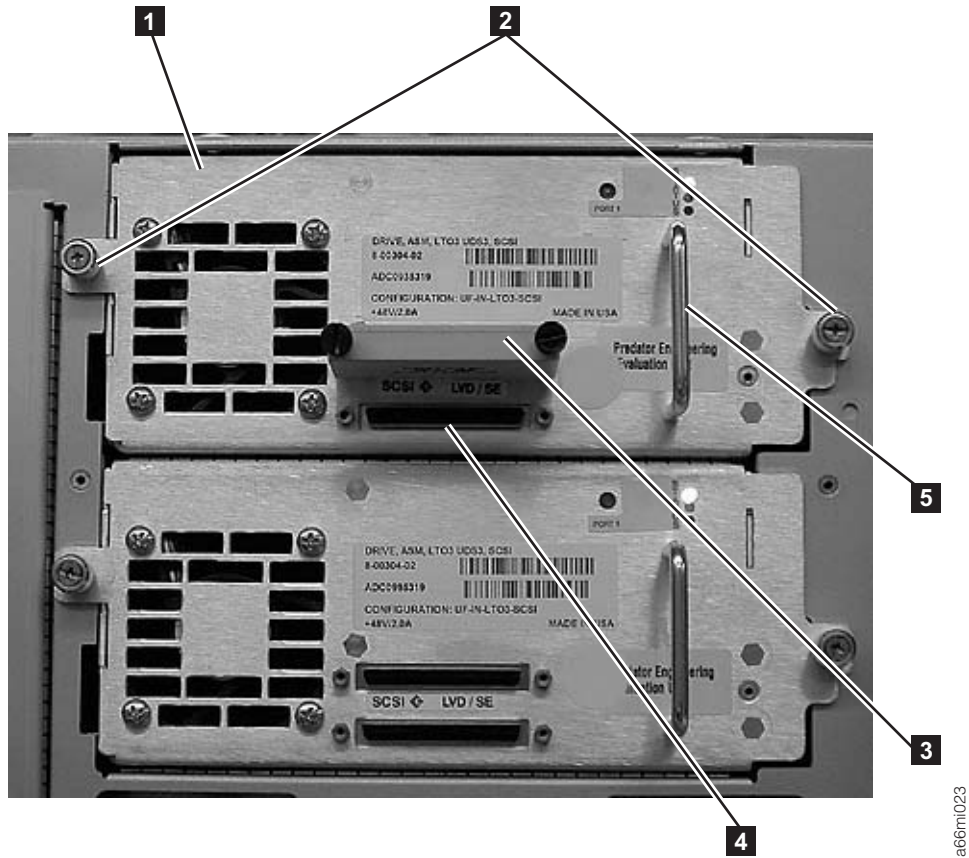

Figure 3-29. Tape Drive (detail)
2. Grasp the handle (**5** in Figure 3-29 on page 3-30) and slowly slide the drive sled into the drive slot, while supporting the drive sled from underneath.
3. Tighten the two thumb screws (**2** in Figure 3-29) that hold the drive sled in place by turning them clockwise.